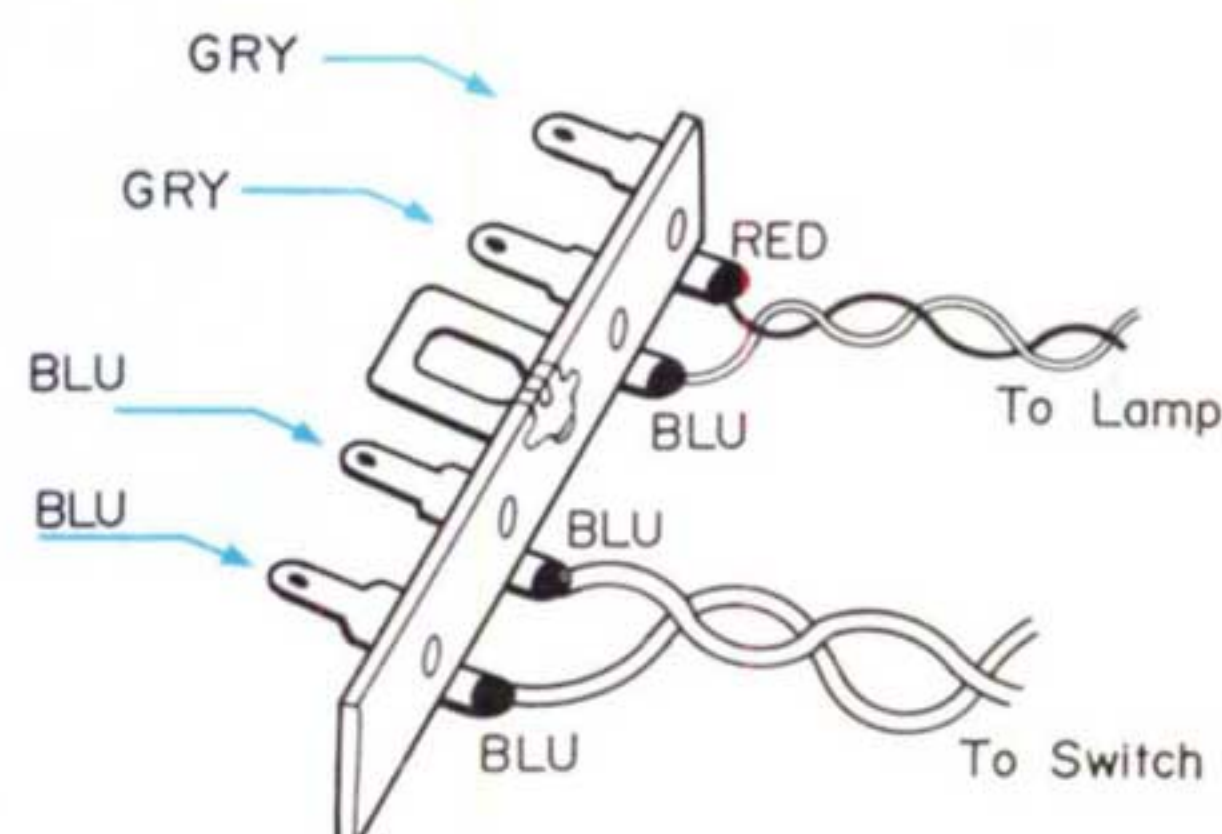

Fig. 2-7 4-P Terminal Wiring
4. Carefully lift the turntable base while disconnecting the four lead wires from the 4-p terminal board and place it on a protective pad. See Fig. 2-7.